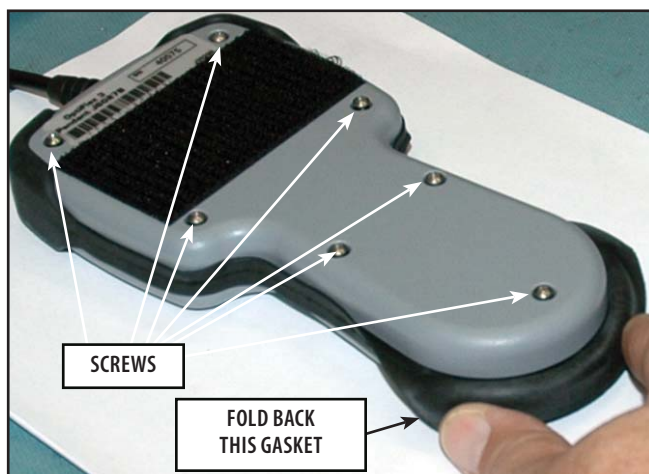

FIGURE 6.21
2. Turn the Pendant face down. Using a #1 Phillips screwdriver, loosen the 7 screws securing the back Cover of the Pendant. **Refer to Figure 6.21.**